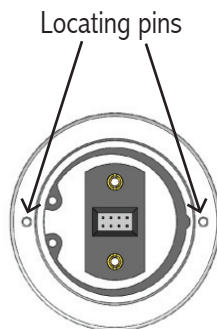
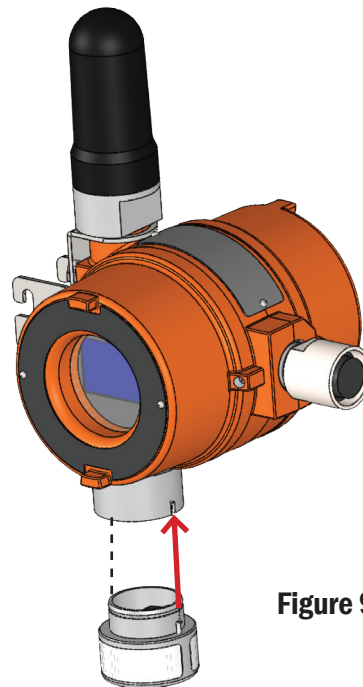

Figure 8
Figure 9
3. Align the locating pins (see Figure 8) on the *FLEXsense*™ sensor to the keyed positions on the sensor housing (see Figure 9).